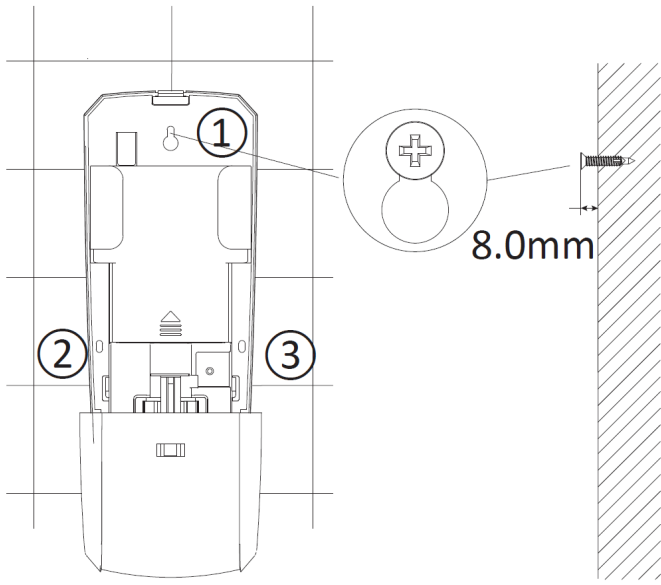
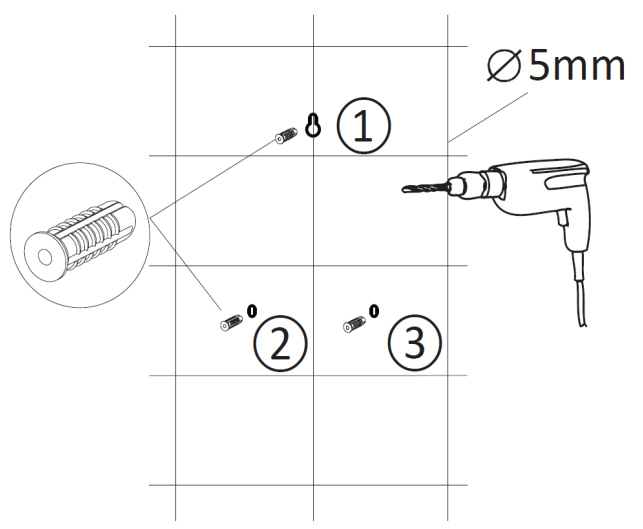

Fig. 3
Fig. 4
4. Use the soap dispenser to mark the location for the top key hole fixing (1) in Fig.3.
5. Using mounting screws, loosely fit dispenser into key hole fixing (1)
6. Mark location of mounting holes (2 & 3). Remove dispenser and drill holes. (2 & 3) see Fig.4.